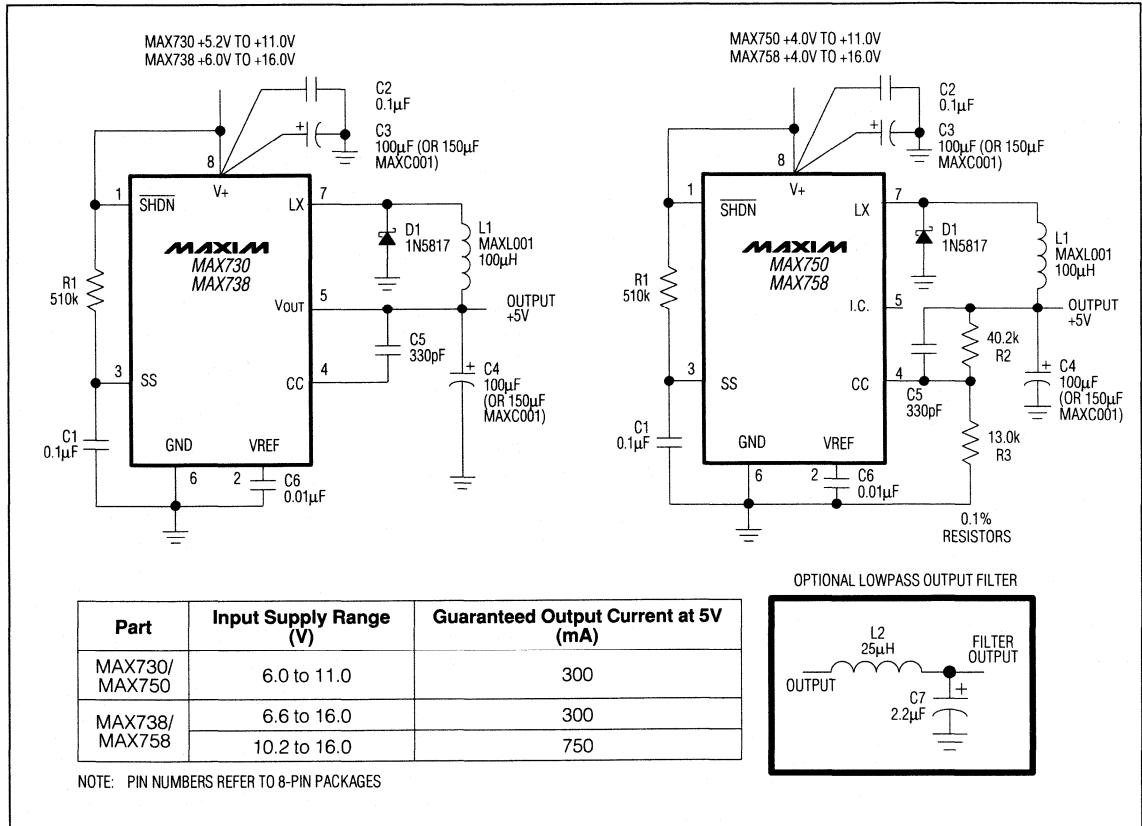

Figure 3. Standard +5V Step-Down Application Circuit
CIRCUIT OF FIG. 3,  $V_+ = 12V$ ,  $T_A = +25^\circ C$
Figure 3 shows both the standard 5V and the adjustable step-down application circuits. These circuits are useful in systems that require high current and high efficiency and are powered by an unregulated supply, such as a battery or wall-plug AC-DC transformer. These circuits will operate over the entire line, load, and temperature ranges using the single set of component values shown. All components shown are suitable for the MAX730/738/750/758. The actual value of the input and output capacitors is not critical as long as it is greater than 100 $\mu$ F, has low ESR, and has sufficient voltage rating.
For other output voltages, the MAX750/MAX758 have adjustable outputs from 1.25V to the input voltage. To adjust for other output voltages, connect a voltage divider to the compensation capacitor input (CC) pin as shown in Figure 3.
A simple lowpass pi-filter (Figure 3) can be added to the output to reduce output ripple to about 5mVp-p. The cutoff frequency shown is 21kHz. Since the filter inductor is in series with the circuit output, its resistance should be kept to a minimum so the voltage drop across it is not excessive.